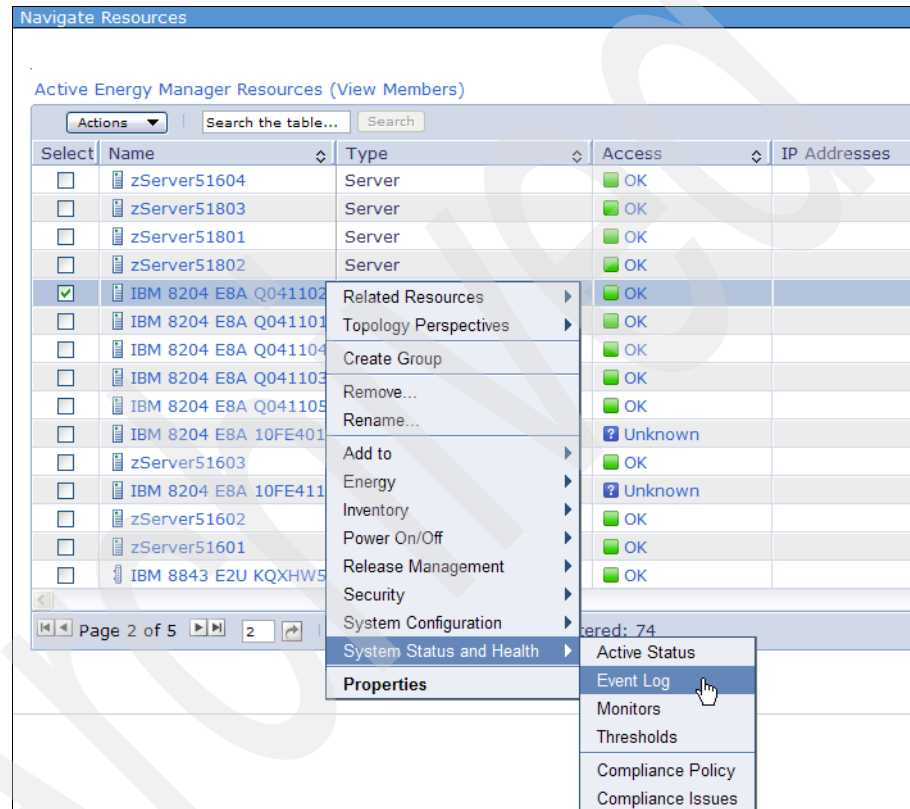

Figure 6-79 Viewing events for a single Active Energy Manager resource - 1
2. Right-click the resource for which you want to view events. Select **System Status and Health** → **Event Log** (Figure 6-79).